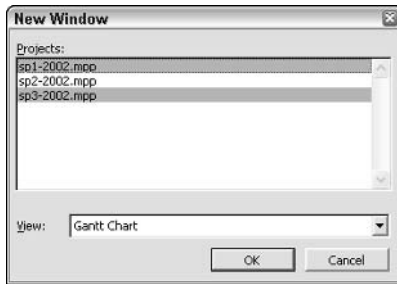

Figure 15-9: Use the New Window dialog box to quickly consolidate open projects.
2. Choose Window→New Window to open the New Window dialog box, as shown in Figure 15-9.